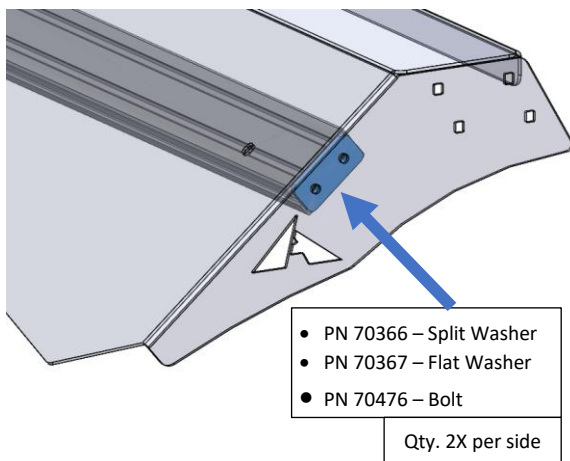

Figure 12: Air Dam Spacer Installation
- Install air dam spacer between crossbar and air dam inside edge (Figure 12). Use 1/4"-20 hardware to fasten together. Repeat for both driver and passenger side.